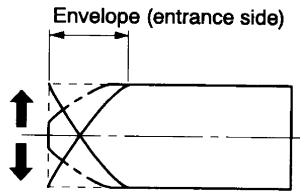

Fig. 2-1-83 Video envelope rising when operation mode is switched from review to play mode
2. Switch the Review mode to the Play mode. When switched to the Play mode, make sure the entrance side envelope comes to an approximate steady state within 3s as shown in Fig. 2-1-83.